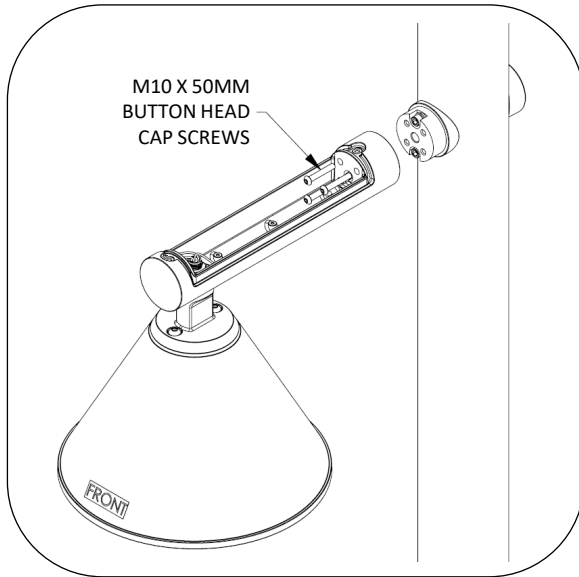

Fig. 6 – ATTACH ARM TO CLAMP
3. Attach luminaire arm to the clamp installed on the pole, see Fig. 6.